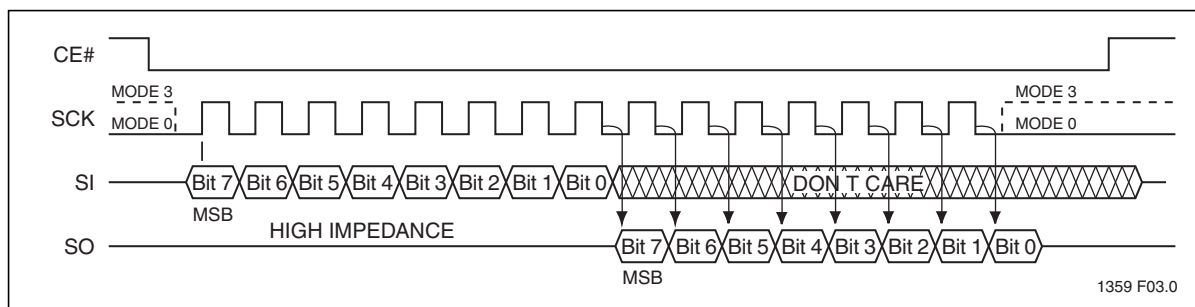
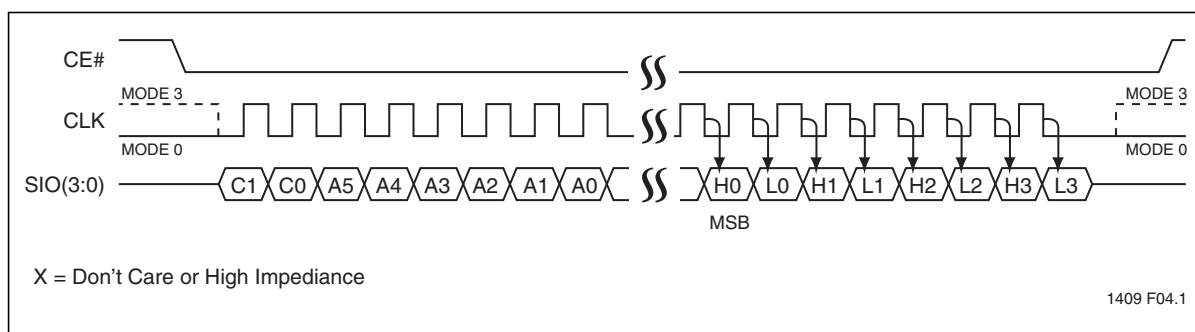

Figure 4: SPI Protocol (Traditional 25 Serial SPI Device)
Figure 5: SQI Serial Quad I/O Protocol
SQI Flash Memory protocol supports both Mode 0 (0,0) and Mode 3 (1,1) bus operations. The difference between the two modes, as shown in Figures 4 and 5, is the state of the SCK signal when the bus master is in Stand-by mode and no data is being transferred. The SCK signal is low for Mode 0 and SCK signal is high for Mode 3. For both modes, the Serial Data I/O (SIO[3:0]) is sampled at the rising edge of the SCK clock signal for input, and driven after the falling edge of the SCK clock signal for output. The traditional SPI protocol uses separate input (SI) and output (SO) data signals as shown in Figure 4. The SST26VF016/032 use four multiplexed signals, SIO[3:0], for both data in and data out, as shown in Figure 5. This quadruples the traditional bus transfer speed at the same clock frequency, without the need for more pins on the package.